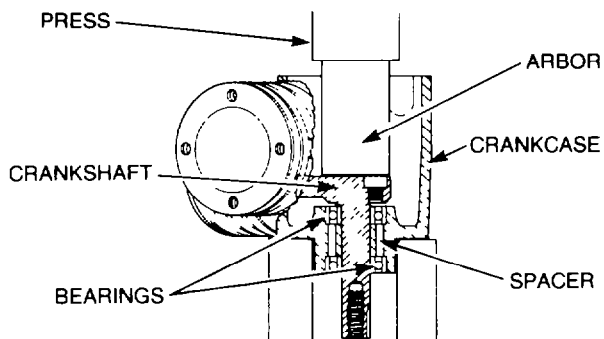

Figure 7 — Crankshaft — Installation
- b. Suitably support the compressor, and press the crankshaft and bearing into the crankcase, ensuring that the bearing is installed correctly (see Fig. 7). Install the spacer and press in the outer bearing.